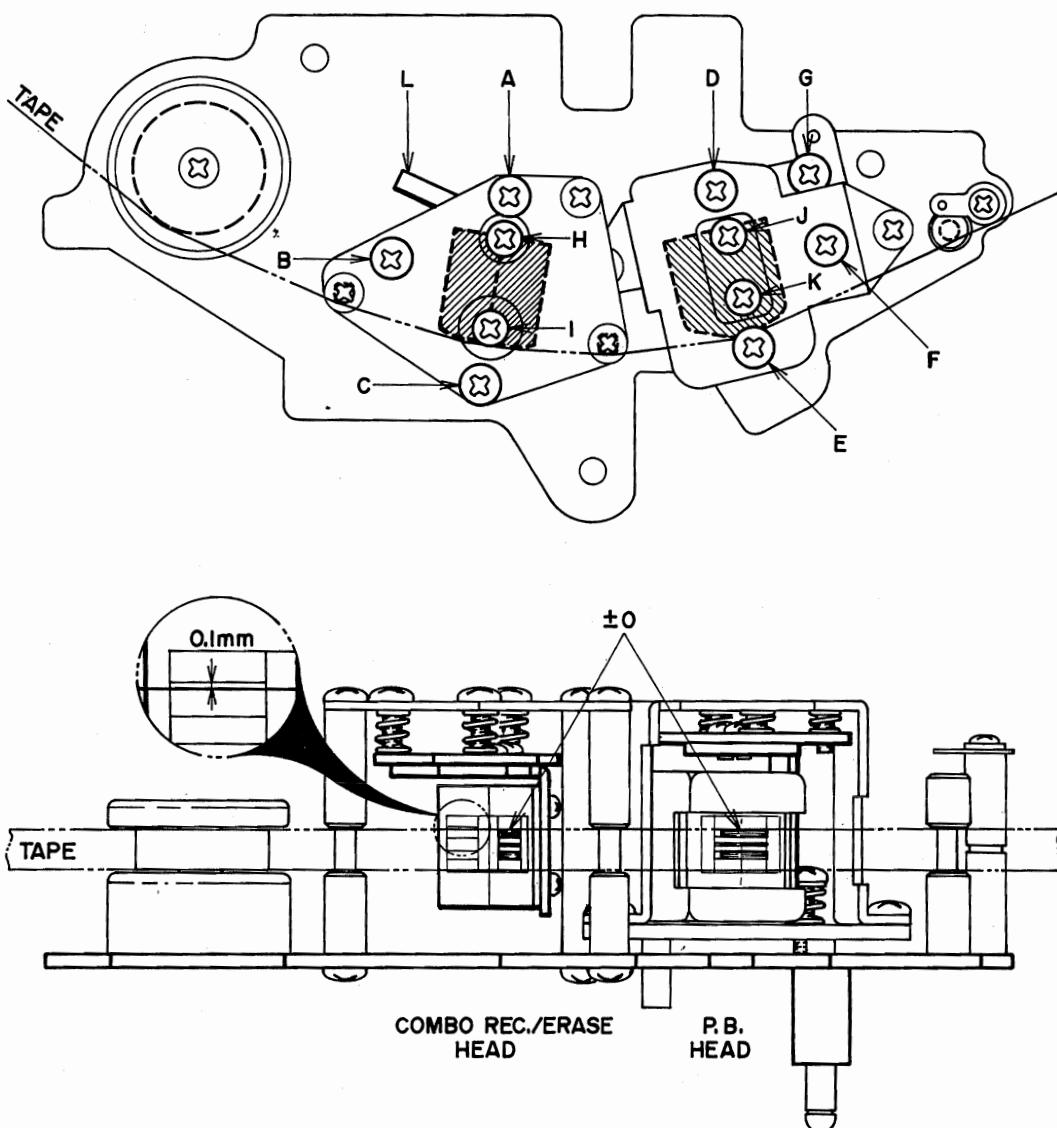

Fig. 18
At Playback mode adjust COMBO head height by turning screws (A) (B) and (C) shown in Fig. 18 to left and right until the upper edge of the tape is the same height as the upper edge of the left channel recording head core.
- At Forward Playback mode, adjust playback head height by turning screws (D) (E) and (F) shown in Fig. 18 to left and right until the upper edge of the tape is the same height as the upper edge of the left channel playback head core.
- At Reverse Playback mode, adjust playback head height by turning screw (G) shown in Fig. 18 to left and right until the lower edge of the tape is the same height as the lower edge of the right channel playback head core.
- At Forward Playback mode, turn Azimuth Alignment Screw (F) shown in Fig. 18 to obtain maximum line output level on both channels.
- After the adjustment in Item d) above has been completed, loosen screws (J) and (K) shown in Fig. 18 and move the head gap side of the playback head to left and right. When tension is applied to the supply reel side and
- d) At recording mode, turn Azimuth Alignment Adjustment Screw (B) shown in Fig. 18 to left and right until the line output level of both channels is maximum and does not fluctuate.
- e) After completing adjustment in Item d) above, adjust gap side of recording head by moving installation angle (L) shown in Fig. 18 to left and right until the line output level of both channels do not fluctuate (maximum allowable fluctuation within +0.5/-0 dB) when tension is applied to the supply reel side.